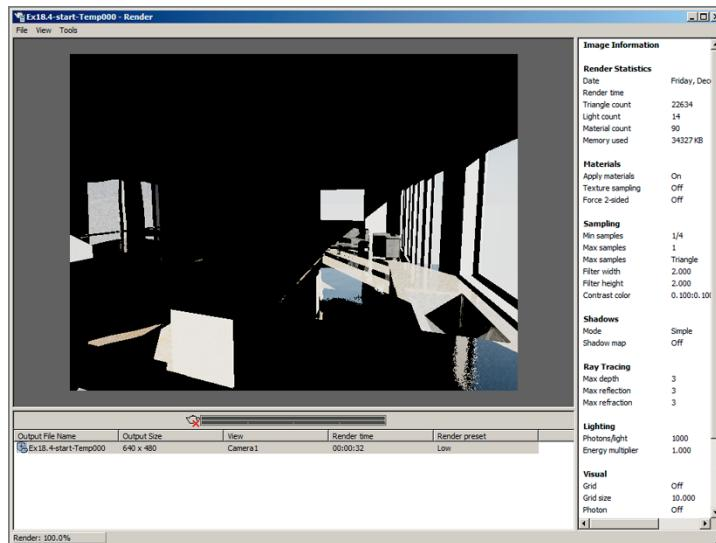

FIGURE 18.15 First test render using Low quality preset
- Open the Render Presets drop-down menu in the Render panel and select Low. Click the teapot icon to initiate the rendering process. Figure 18.15 shows the resulting low-quality rendering that appears after a few moments in the Render dialog box.